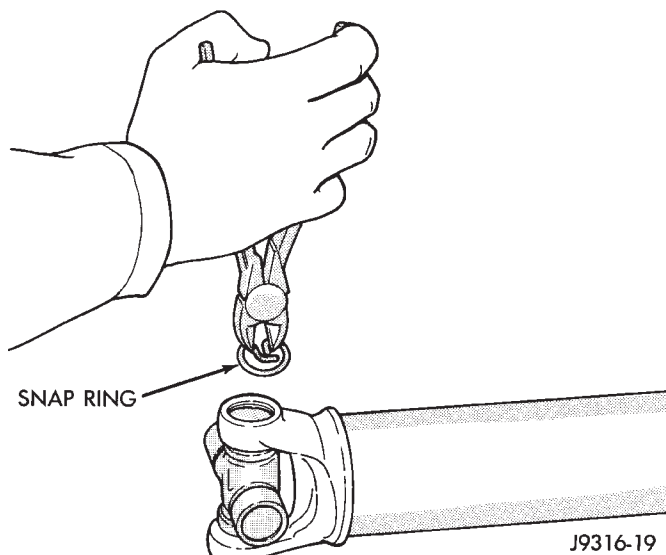

Fig. 2 Remove Snap Ring
(1) Remove the propeller shaft. Refer to Propeller Shaft Replacement in this Group.
(2) Paint or score alignment marks on the yokes and propeller shaft for installation reference.
(3) Using a soft drift, tap the outside of the bearing assembly to loosen snap ring.
(4) Remove snap rings from both sides of yoke (Fig. 2).